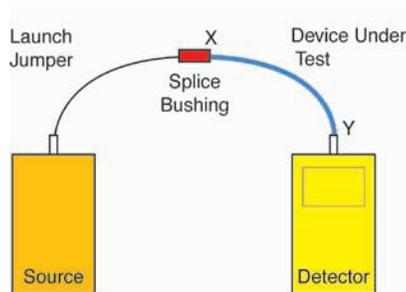

Figure 2
- The test launch jumper is disconnected from the detector and connected to connector end “X” of the device under test via a splice bushing. Connector end “Y” of the device under test is connected to the detector. See Figure 2. The detector displays dB loss which represents optical power loss at the “X” connection (due to misalignment, concentricity, angularity, etc.) plus the loss due to attenuation through the length of fiber in the device under test.
For Single Ended Method See Figure 2 on page 5.